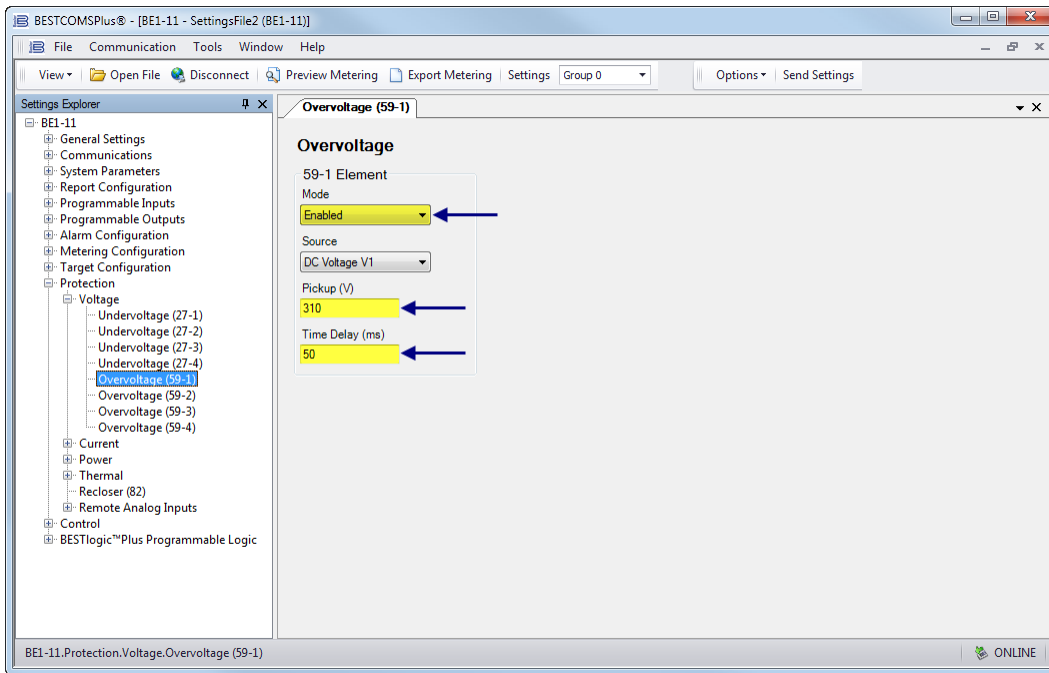

Figure 2-10. Overvoltage (59-1) Screen
- Step 5: In the Settings Explorer, expand Protection, Voltage and select the Overvoltage (59-1) screen. See Figure 2-10.